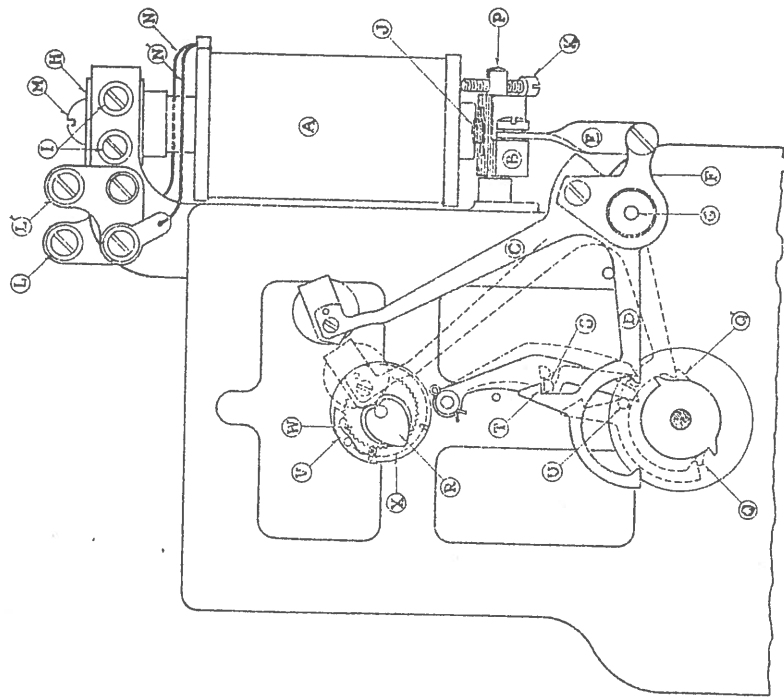

Fig. 9
The synchronizing lever (D and C) shown on Fig. 9 with heart shape seconds socket (R) and cam (Q and Q') on cannon socket are the same as in our older style movements. The synchronizing magnets and the method of operation of the synchronizing lever are different. The magnet (A) has a flat ended core. The armature (B) is made of flat iron pivoted to stud (P) fastened to synchronizing frame. The armature (B) is connected to the synchronizing lever (D and C) by a connecting rod (E) and two Pitman screws. Synchronizing lever arm (F) has an oblong slot allowing the armature to be lowered or raised  $\frac{1}{16}$ ". The synchronizing lever (D and C) is placed on a steel stud (G) fastened to the front plate and held in position by a brass nut. The synchronizing magnets (A) are fastened to yoke (H). The yoke is screwed to the synchronizing frame by four iron screws (I). The holes in synchronizing frame are oblong, allowing the yoke (H) and magnets (A) to be raised or lowered  $\frac{1}{16}$ ". The spring (J) on top of armature is used to throw it back quickly and also prevents armature from freezing to magnets. The screw (K) in stud (P) is used to screw up against magnet head, preventing any spring that might take place on armature stud. Binding posts (L and L') are screwed to synchronizing frame and the ends of the magnet coils are fastened thereto with metal clips. The brown flexible cords have metal clips soldered to them. They connect direct by these clips to binding posts (L and L') thus making a firm connection.
*See Fig. 9*